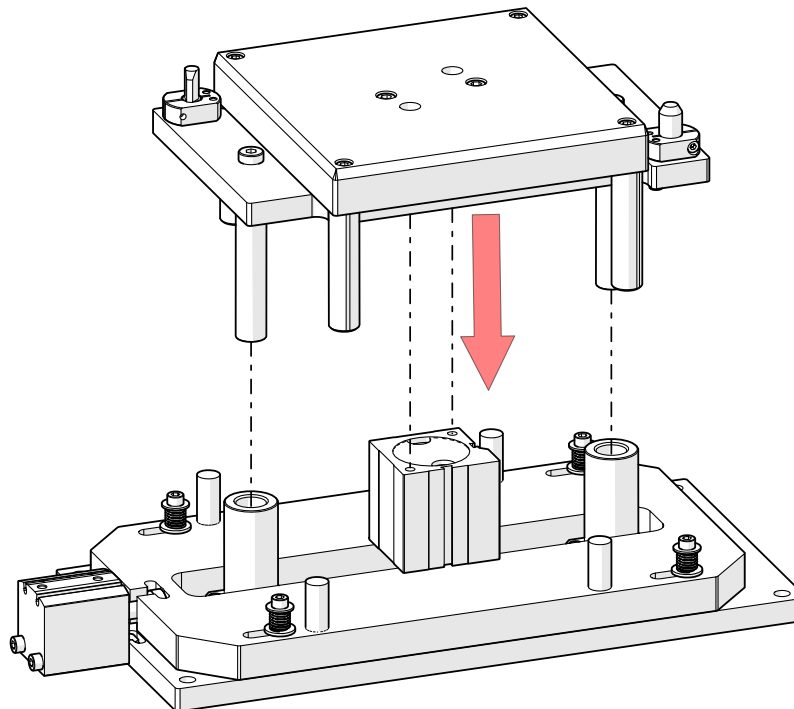

Figure 12: Reinstall Top Anvil Plate Assembly
Step 7: Reinstall Top Anvil Plate Assembly as shown in Figure 12